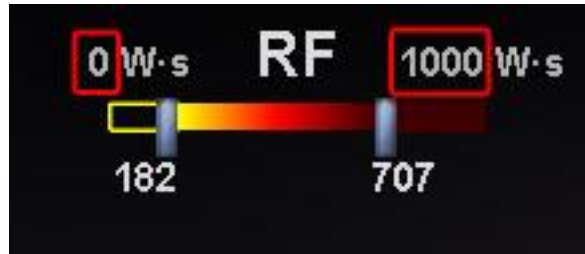

Figure 145. Edited W-s values indicated by red rectangles
3. See **Figure 145** for an example of manual editing.
In addition to manually editing the range display, the user may also drag the bar at either end of the gradient display to change the color gradient within the defined range. Like in **Figure 145**, the user may select and slide the bar at **182** or the bar at **707** to a lower or higher number.